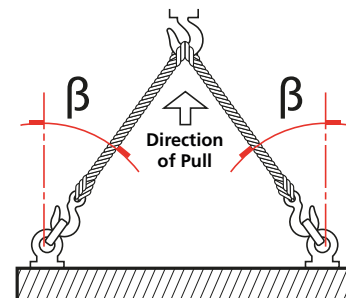

Fig 7.2 Lifting angle
- Angle β must be between 0° and 45° as shown in Figure 7.2